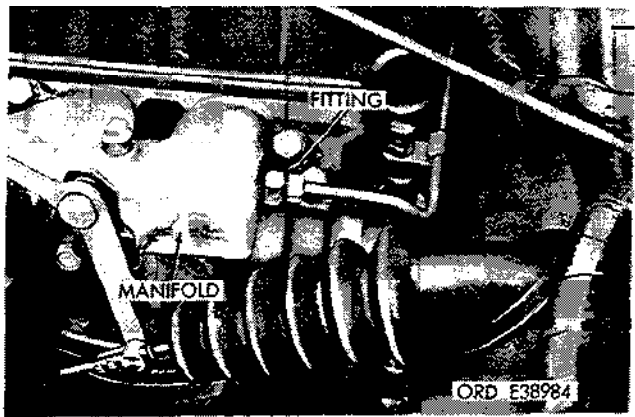

Figure 2-71. Unscrew vent line fitting from intake manifold
a. Removal. Refer to fig. 2-71 through 2-74 for removing intake manifold.
(1) Remove air cleaner base and carburetor.
(2) Unscrew vent line fitting from intake manifold (see fig. 2-71).
b. Installation. Refer to figs. 2-74 to fig. 2-71 and reverse removal instructions to install intake manifold.